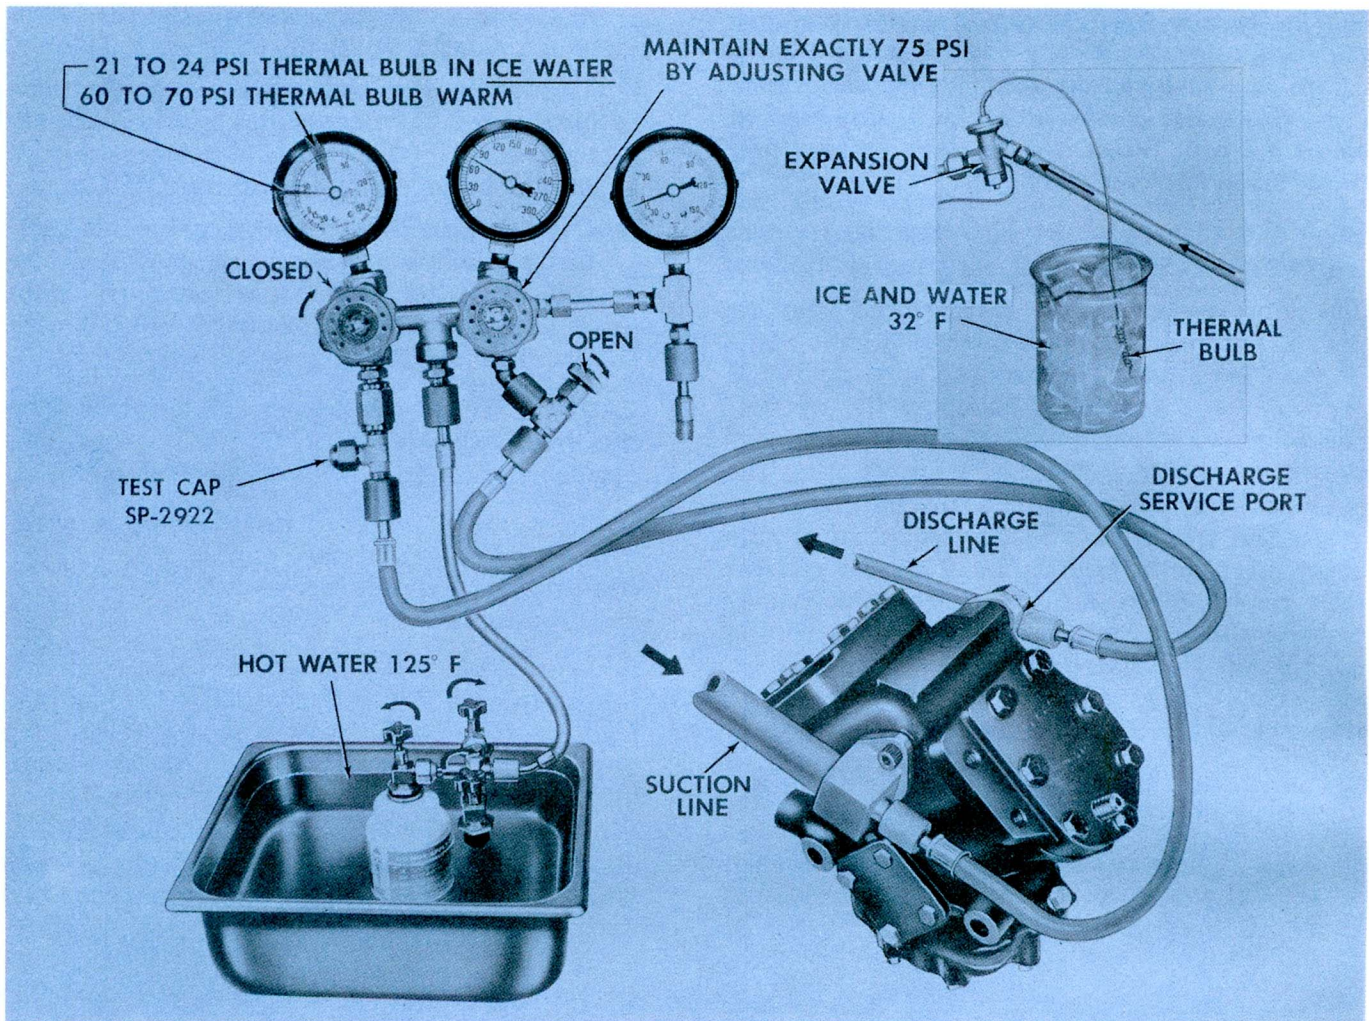

Fig. 18—Expansion valve test
- This completes all test connections necessary for the expansion valve test. Check the test set-up against those illustrated in Figure 18. Then, proceed with the following preparation steps: